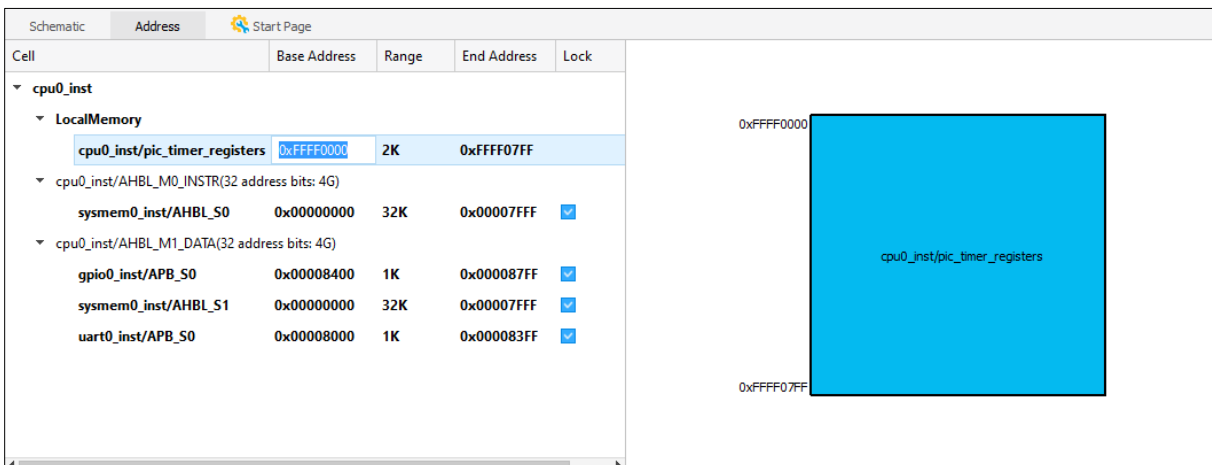

Figure 2.108. Edit Base Address
- (Optional) Double-click the base address in Address view (Figure 2.108). Type the new value and press **Enter**.